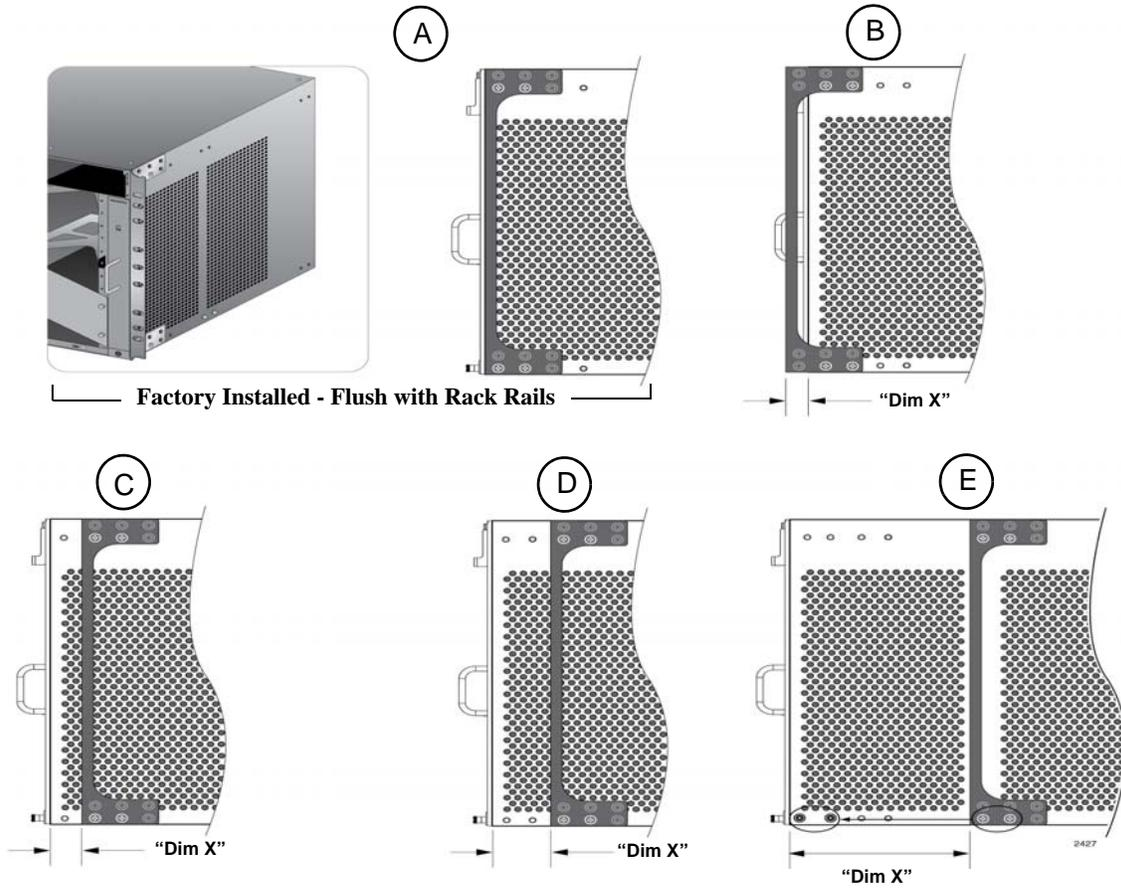
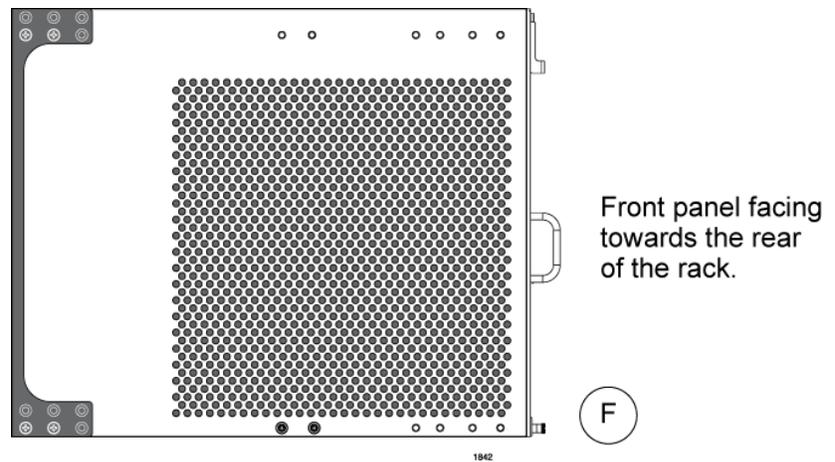

Figure 36. Rack Mounting Bracket Locations
Figure 37. Rack Bracket Locations for Reverse Position of Chassis
You adjust the brackets by removing them and re-installing them in different positions on the sides of the chassis. The different bracket positions are listed in Table 27 and illustrated in Figure 36 on page 101 and Figure 37 on page 101. Please review the following information before moving the brackets:
- To install the rack mount brackets in position “E,” you have to remove the two chassis screws from the bottom-middle section of the chassis and re-install them in front where the rack mount bracket screws were originally, as shown in Figure 36 on page 101.
- The dimension (X) between the front panel and the rack rails is given for each rack mounting bracket position in Table 27.